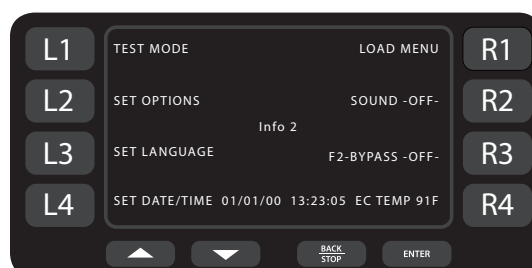
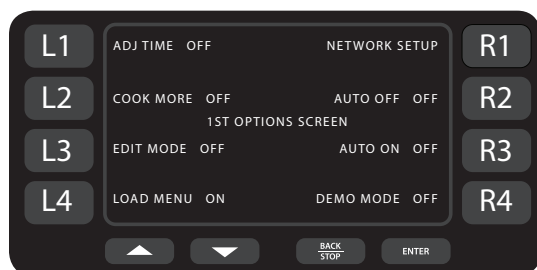

Figure 14: Info Mode Screen 2
Figure 15: 1st Options Screen
From screen 2 of the Info Mode (Figure 14):
From screen 2 of the Info Mode (Figure 14), press the L3 soft key to scroll through available languages. Each time L3 is pressed, a different language is selected in the following order: English (default), Spanish, French, German, Portuguese, Italian, Russian, Greek, Polish.
The F2 alarm indicates the oven temperature is too low - see page 55 for details. From screen 2 of the Info Mode (Figure 14, page 11), press the R3 soft key to set the F2 Bypass.
From screen 2 of the Info Mode (Figure 14, page 11), press the L2 soft key to access the Set Options screens (Figures 15 and 16). When prompted, enter the password 9 4 2 8 and press the Enter key.
From screen 2 of the Info Mode (Figure 14, page 11), press the L4 soft key to access the Set Date/Time screen (Figure 17). The real time, “auto-on” time, and “auto-off” time can be set.
An accurate real time is critical for the usability of auto-on and auto-off. When these features are enabled from the 1st Options Screen (Figure 15, page 12), the oven will automatically turn on or off at the time specified.
**IMPORTANT:** For auto-on and auto-off to be active, they must be enabled from the 1st Options Screen (Figure 15, page 12).
From screen 2 of the Info Mode (Figure 14, page 11), press the L1 soft key (Figure 18) to access Test Mode (Figure 16, page 13). When prompted, enter the password 9 4 2 8 and press the Enter key. From Test Mode, the oven’s components can be tested independently, or a comprehensive/selective self-test can be run. Unless otherwise specified, idle airflow is set to 10% and the stirrer motor is turned on.